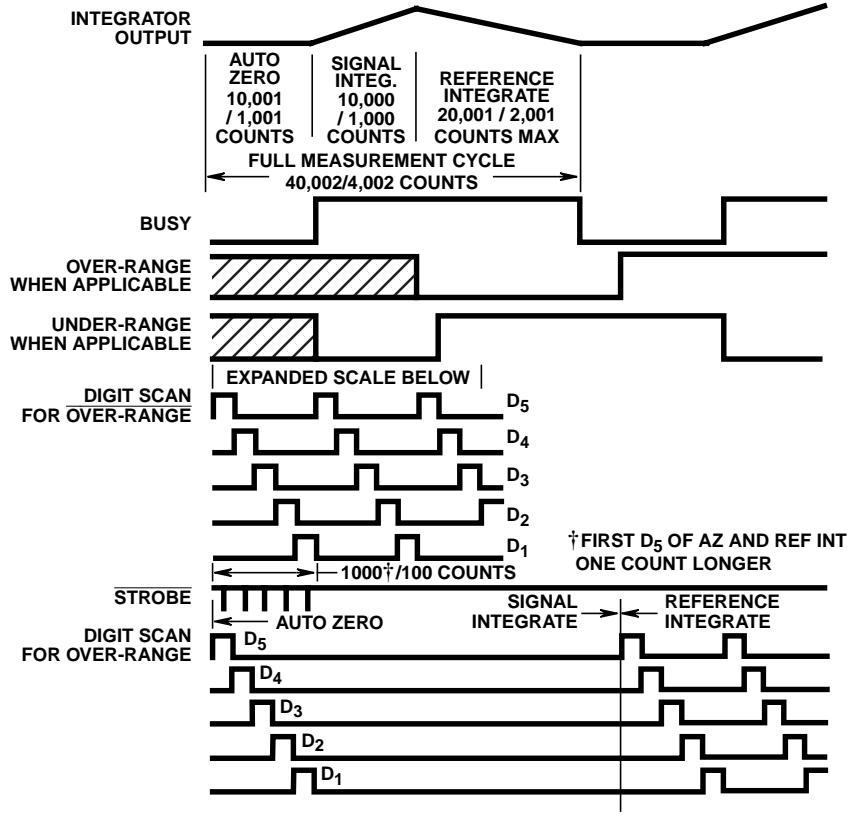

FIGURE 5. TIMING DIAGRAM FOR OUTPUTS
9. Tested in 3½ digit (2,000 count) circuit shown in Figure 5, clock frequency 12kHz. Pin 2 71C03 connected to GND.
10. Tested in 4½ digit (20,000 count) circuit shown in Figure 5, clock frequency 120kHz. Pin 2 71C03A open.